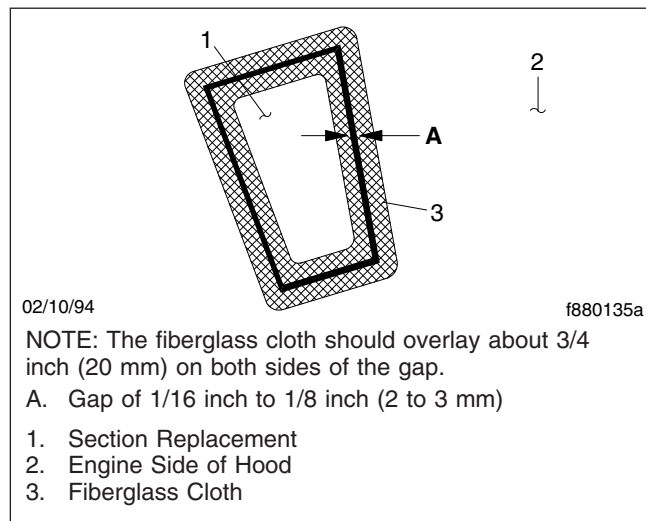

Fig. 10, Overlaying the Gap with Fiberglass Cloth
13. With a razor-blade knife, cut sections of woven fiberglass cloth to fully cover the gap between the cutout and the section replacement, all the way around the damaged area. The cloth should overlay about 3/4 inch (20 mm) on both sides of the gap. See **Fig. 10**.